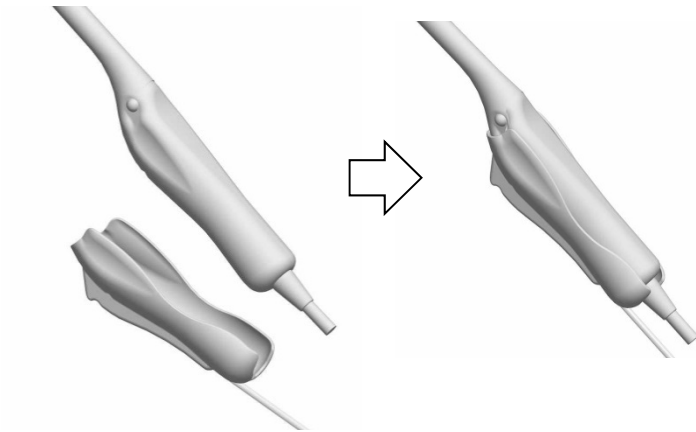

Fig. 9 How to attach the Magnetic sensor attachment
4) Attach the Magnetic Sensor Attachment to the probe as shown in Fig. 9.